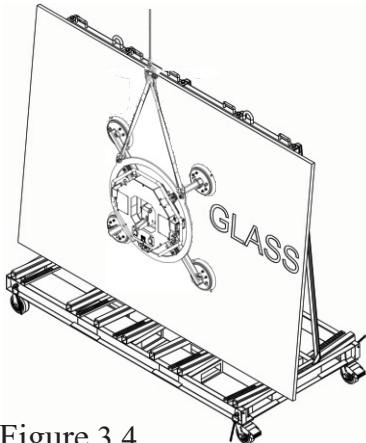

Figure 3.4
**Step 4:** Move the lifer close to the glass sheet surface (Figure 3.4 and 3.5).